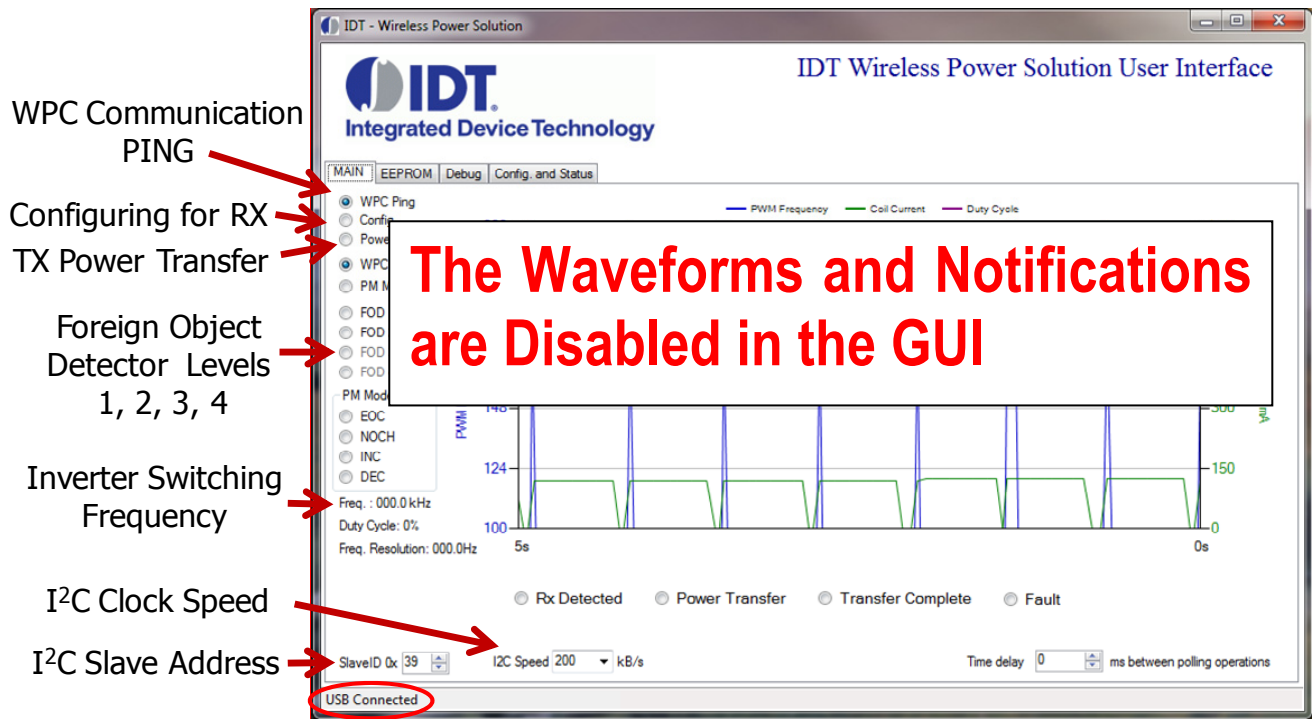

Figure 21. Windows GUI Main tab
6. Without an RX load on the coil, note which LEDs are lit up on the eval board. Now place a load onto the coil and observe the different LEDs that light up depending upon where the RX load is placed onto the coils. The LEDs are defined in Figure 5. Also observe the different real time signals propagating on the GUI (Figure 21). Any problems see Troubleshooting page 19.
You can verify that the IDTP9036A is properly connected to your computer and able to communicate with the evaluation board by looking at the lower left of Figure 21. It should state “USB Connected”. Otherwise it will state in Red letters: “USB Disconnected – Check Connection”.
- 2) Placing different Rx objects and loads onto the coils will change the real time signals, and it will change the location of the Blue “dot” at the left side of the GUI’s MAIN tab (Figure 21). For example, when the system is first turned-on, and without a load on the coil, the Blue “dot” will flash, i.e, “ping”, at the WPC Ping text location, at the very top left hand side of GUI. Then, when a load is placed on the coil, the flashing Blue “dot” at WPC Ping will cease and a solid Blue dot will appear at the Power Transfer Line text location on the left hand side of the GUI. Also, it should be noted that the red LEDs D3 and D4 will flash on/off on the eval board without an RX. Note, however, that if the load is connected to one of the three coils, the red LEDs will turn on as shown in Figure 5 and Table 1. Also, once the RX has established good communication with the evaluation board, the Rx Detected and Power Transfer “non flashing” solid Blue dots located just below the real time signals on the MAIN tab of the GUI will appear, Figure 21. Moving the RX on the coils will change the Coil Selection LEDs as shown in Table 1.